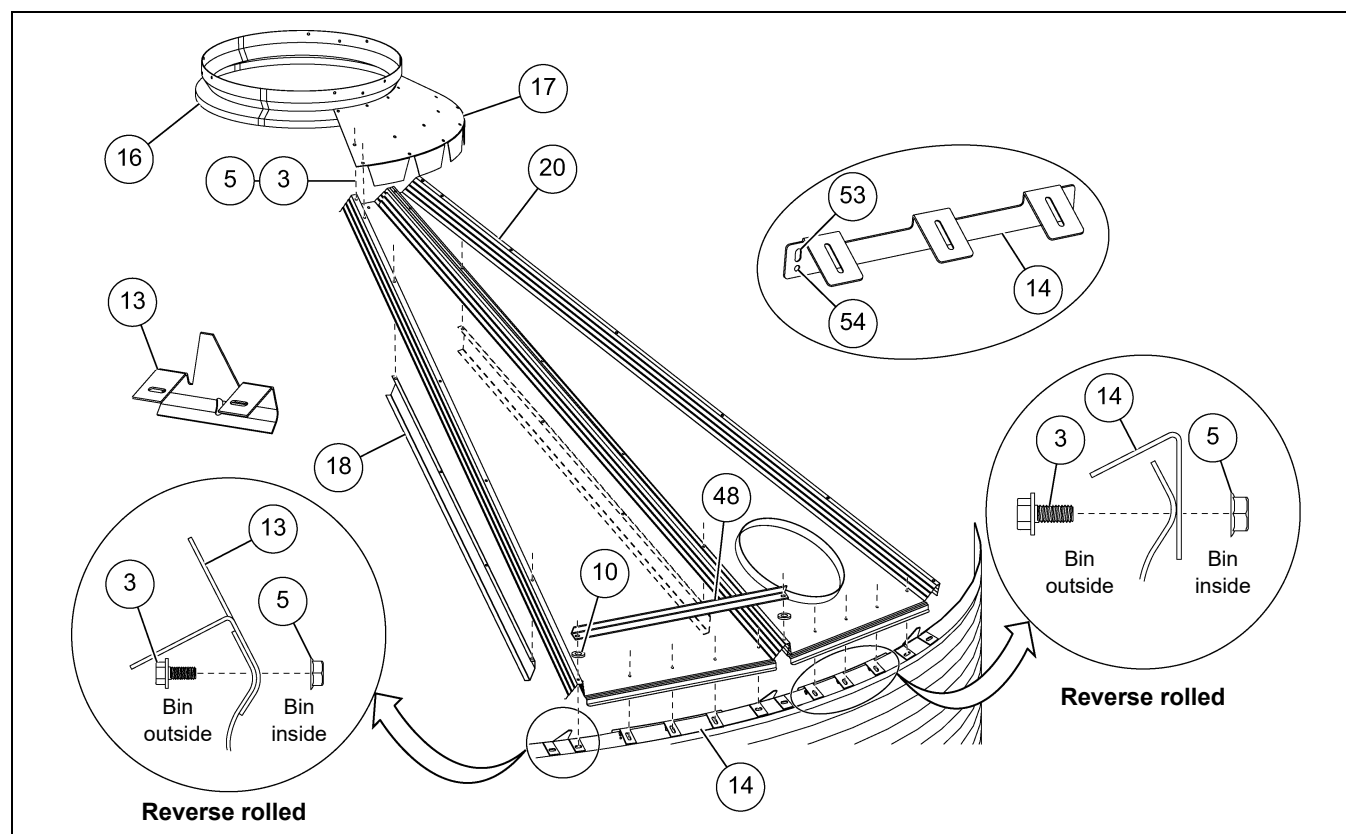

Figure 11C Roof Panel Assembly (For 18' Diameter Bins)
NOTE: For 18' diameter bins, an additional roof channel (18) must be installed under the ribs of the roof panel where the roof steps are to be installed. Start the roof channel (18) assembly using the second hole in the roof panel (20) rib from the bottom (roof eave). (See Figure 11C.)